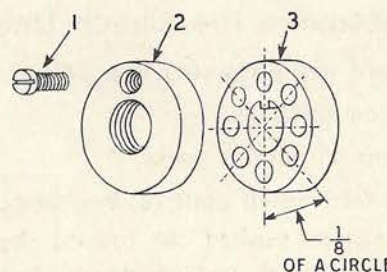

Fig. 33. Worm Shaft End Play Adjustment Collar
Remove dog screw (1) in collar (2) Fig. 33. By turning threaded collar (2) and entering screw in next hole in thrust washer (3), adjustment of one-eighth of a revolution is possible.
For the removal of the remaining gear shafts, no special instructions are required. The worm shaft thrust collar adjustment is the same as that shown in Fig. 33.
Remove dog screw (1) in collar (2), Fig. 33. By turning threaded collar (2) and entering screw in next hole in thrust washer (3), adjustment of one-eighth of a revolution is possible.